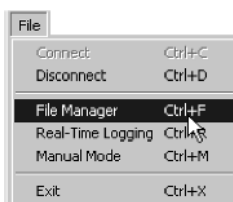

Figure 4-10. File->File Manager
2. Click **File->File Manager** (Figure 4-10).